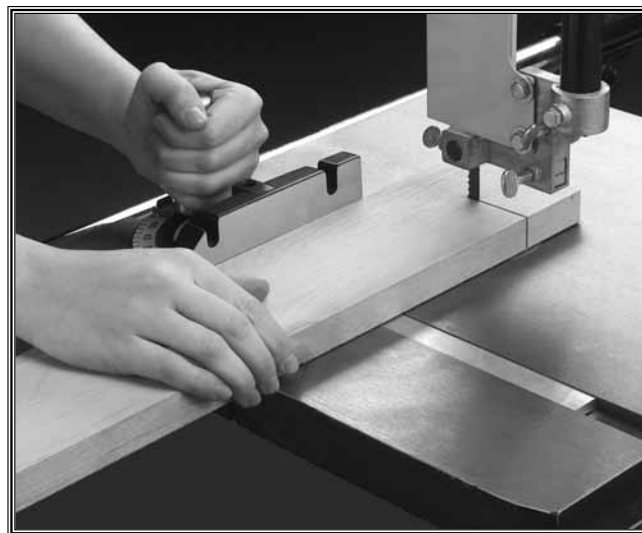

Figure 41. Crosscutting a board on a typical bandsaw.
"Crosscutting" means cutting across the grain of the wood. This is most often done by using the miter gauge for support when making the cut. It can be done freehand as well. See **Figure 41**.
3. Slowly and evenly feed the wood into the blade as shown in **Figure 41**. **DO NOT** force the workpiece into the blade!